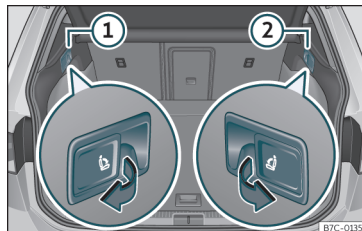

Fig. 108 In the luggage compartment: levers for remote release* of the left part ① and right part ② of the rear seat backrest.
- Pull the unlocking lever»» **Fig. 108** of the part of the backrest to fold down.